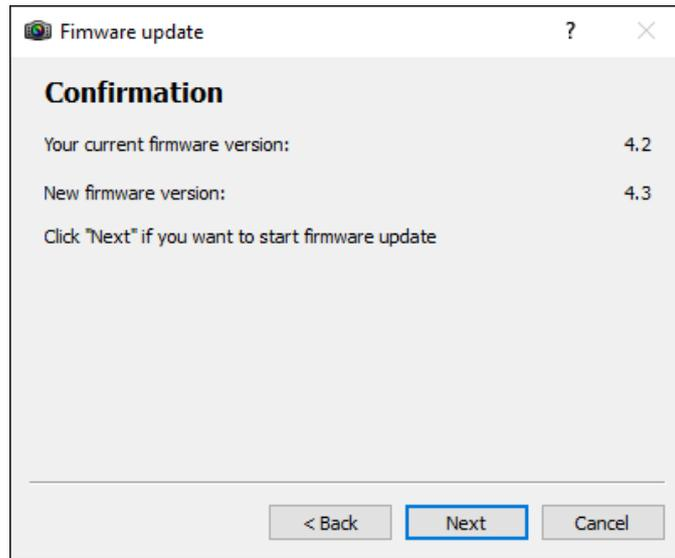

Figure 3 : Firmware Update Confirmation window
3. The next window will display both, current and new firmware, as shown in the Figure 3. By clicking the "Next >" button, the conformation is made and the firmware update will start immediately.